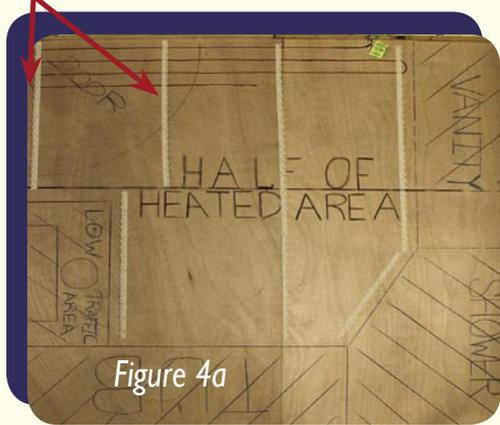

Figure 4a
- Install the cable strapping at 30" to 36" intervals for *Standard Heating Cable Spacing* or at 18" to 24" intervals for *Alternating Heating Cable Spacing* (Figure 4a).